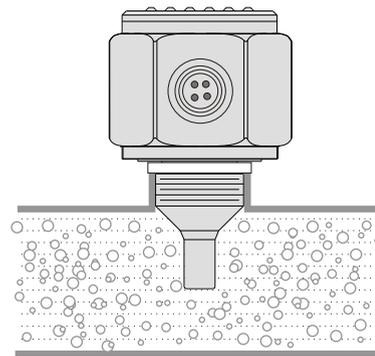

Fig. 2
2. Make sure that the pipe is bubble-free for proper alarming. (Fig. 2)